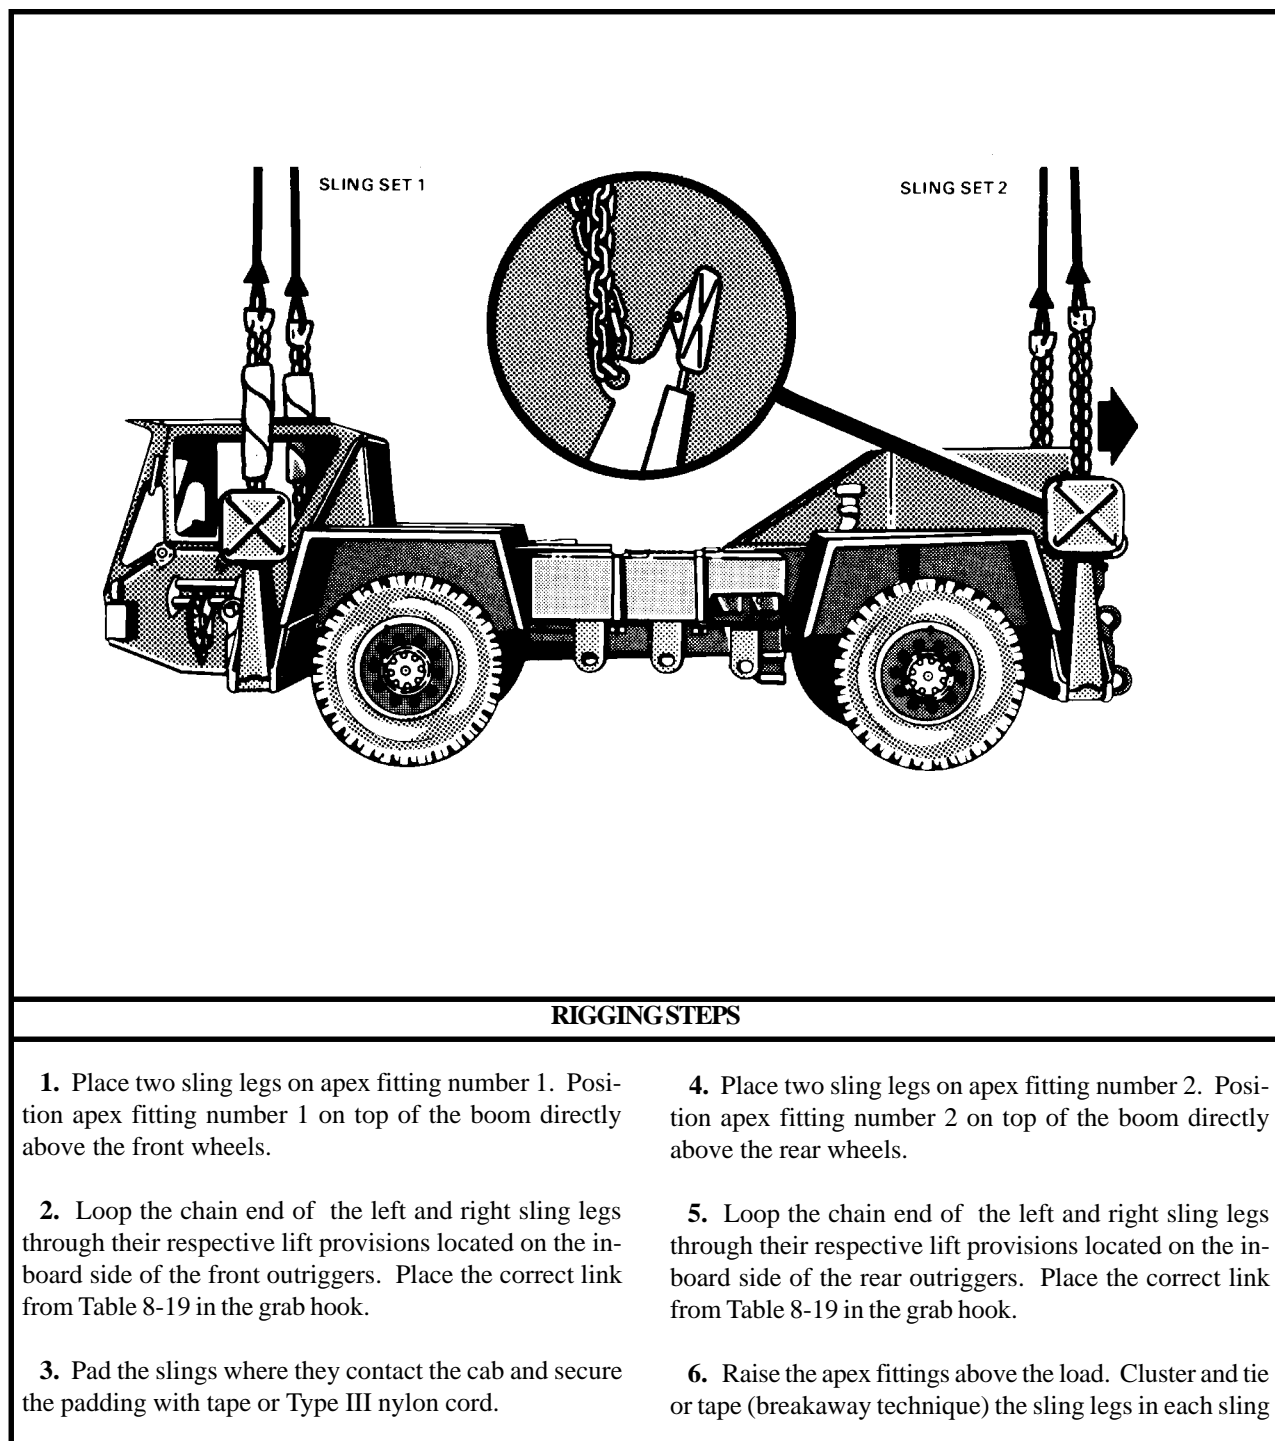

Figure 8-19. LRT-110, 7 1/2-Ton Crane (Power Unit)
(2) **Rigging.** Rig the load according to the steps in Figure 8-19.
(4) **Derigging.** Derigging is the reverse of the preparation and rigging procedures in steps d (1) and d (2).